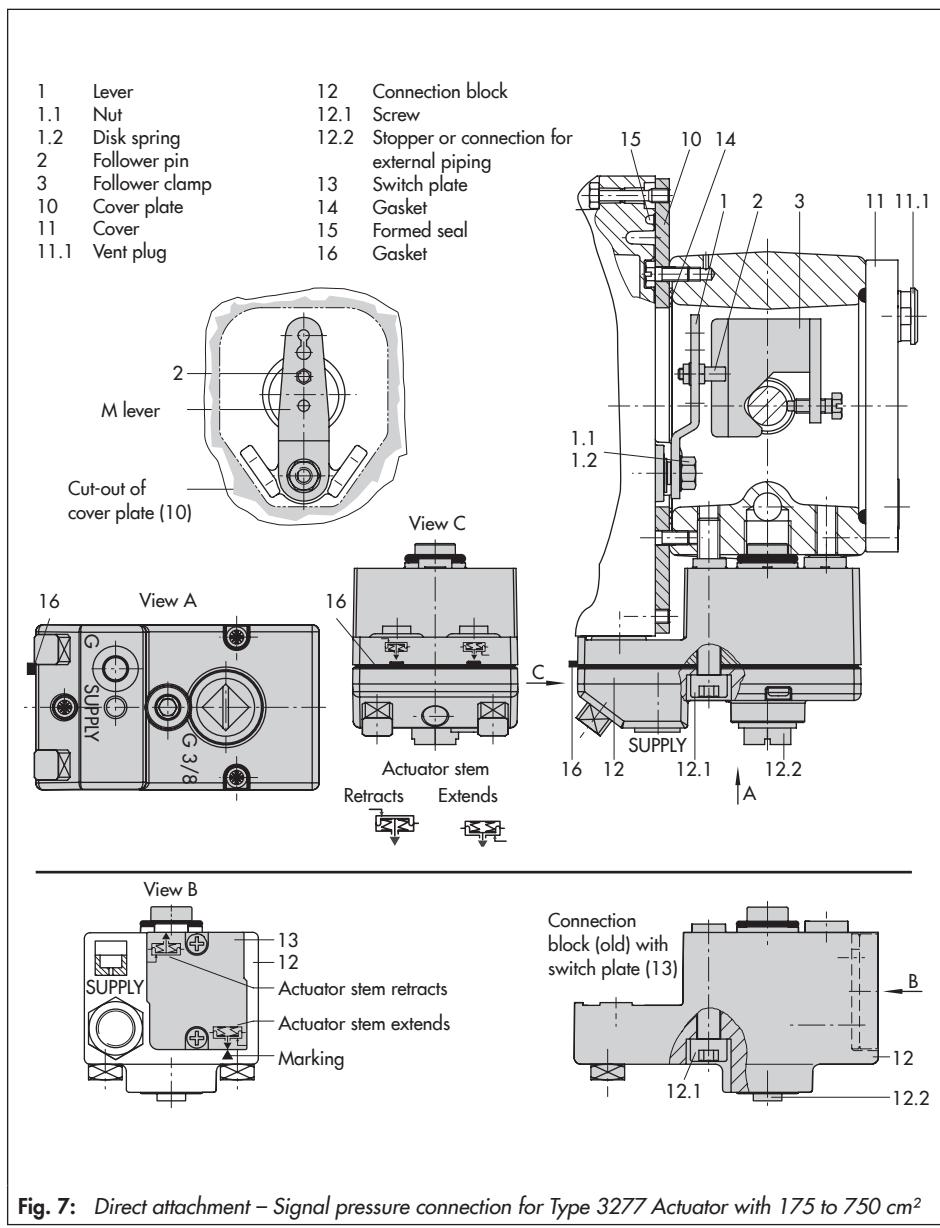

Fig. 7: Direct attachment – Signal pressure connection for Type 3277 Actuator with 175 to 750 cm²
Actuators with 175 to 750 cm² effective areas (see Fig. 7)
1. Place follower clamp (3) on the actuator stem, align it and screw tight so that the mounting screw is located in the groove of the actuator stem.
2. Mount cover plate (10) with narrow side of the cut-out (Fig. 7, on the left) pointing towards the signal pressure connection. Make sure that the gasket (14) points towards the actuator yoke.
3. For actuators with 355, 700 or 750 cm², remove the follower pin (2) on the M lever (1) on the back of the positioner from pin position **35**, reposition it in the hole for pin position **50** and screw tight. For actuators 175, 240 and 350 cm² with 15 mm travel, keep the follower pin (2) in pin position **35**.
4. Insert formed seal (15) into the groove of the positioner housing.
5. Place positioner on the cover plate in such a manner that the follower pin (2) rests on the top of the follower clamp (3). Adjust the lever (1) correspondingly and open the positioner cover to hold the positioner shaft in position at the cap or rotary pushbutton. The lever (1) must rest on the follower clamp with spring force. Mount the positioner on the cover plate (10) using the two fixing screws.
6. Make sure that the tip of the gasket (16) projecting from the side of the connection block is positioned to match the actuator symbol for the actuator's fail-safe action "actuator stem extends" or "actuator stem retracts". If this is not the case, unscrew the three fastening screws and lift off the cover. Turn the gasket (16) by 180° and re-insert it.
The old connection block version (Fig. 7, bottom) requires the switch plate (13) to be turned to align the actuator symbol with the arrow marking.
7. Place the connection block (12) with the associated seals against the positioner and the actuator yoke and fasten using the screw (12.1). For actuators with fail-safe action "actuator stem retracts", additionally remove the stopper (12.2) and mount the external signal pressure pipe.
8. Mount cover (11) on the other side. Make sure that the vent plug is located at the bottom when the control valve is installed to allow any condensed water that collects to drain off.